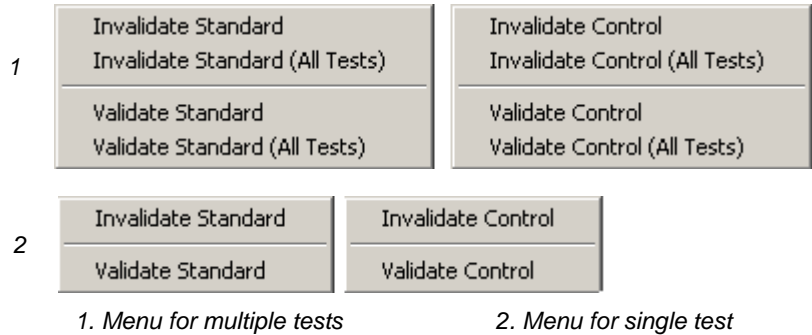

Figure 5-80 Invalidate and Validate Shortcut Menus
2. Right-click to display the related menu. See Figure 5-80. Select the desired menu item to apply. When invalidating, the **Name**